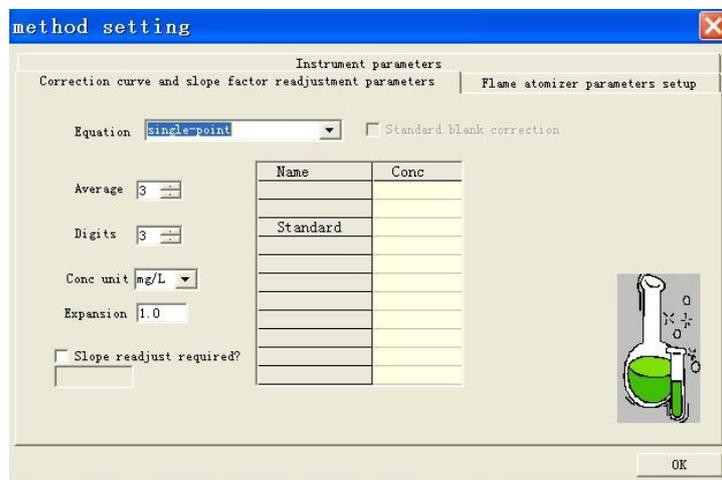

Figure5-37
- Select "Single-point method" in the "Equation selection" pull-down list. Determine the conditions based on the actual needs. See Figure 5-37.